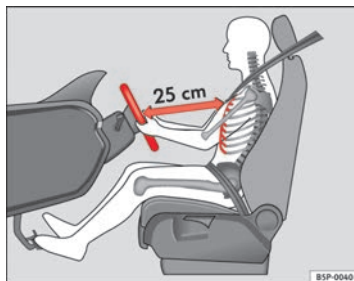

Fig. 138 Proper sitting position for driver
- Adjust the steering wheel until the correct position is set ⇒ Fig. 138.
- Adjust the driver seat or steering wheel so that there is a distance of at least 25 cm between the steering wheel and your chest ⇒ Fig. 138. If you fail to observe the minimum distance, the airbag will not protect you. Risk of fatal injury.